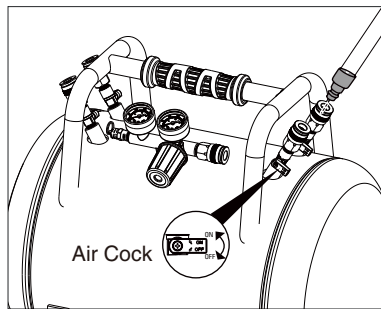

Fig 4
- (1) Connect the air hose to the coupler and open the air cock to completely release the air in the tank (Fig 4).
- (2) Close the air cock (Fig 4).
- (3) Disconnect the air hose from the quick couplers (Fig 4).